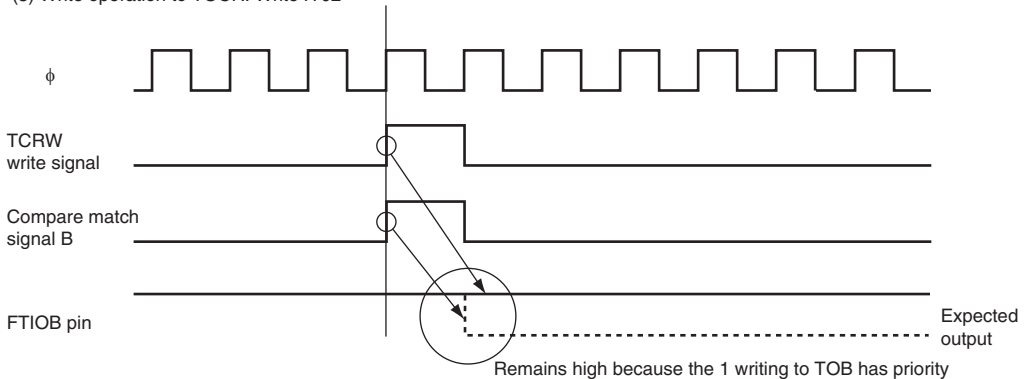

Figure 13.26 When Compare Match and Bit Manipulation Instruction to TCRW Occur at the Same Timing
5. The TOA to TOD bits in TCRW decide the value of the FTIO pin, which is output until the first compare match occurs. Once a compare match occurs and this compare match changes the values of FTIOA to FTIOD output, the values of the FTIOA to FTIOD pin output and the values read from the TOA to TOD bits may differ. Moreover, when the writing to TCRW and the generation of the compare match A to D occur at the same timing, the writing to TCRW has the priority. Thus, output change due to the compare match is not reflected to the FTIOA to FTIOD pins. Therefore, when bit manipulation instruction is used to write to TCRW, the values of the FTIOA to FTIOD pin output may result in an unexpected result. When TCRW is to be written to while compare match is operating, stop the counter once before accessing to TCRW, read the port 8 state to reflect the values of FTIOA to FTIOD output, to TOA to TOD, and then restart the counter. Figure 13.26 shows an example when the compare match and the bit manipulation instruction to TCRW occur at the same timing.